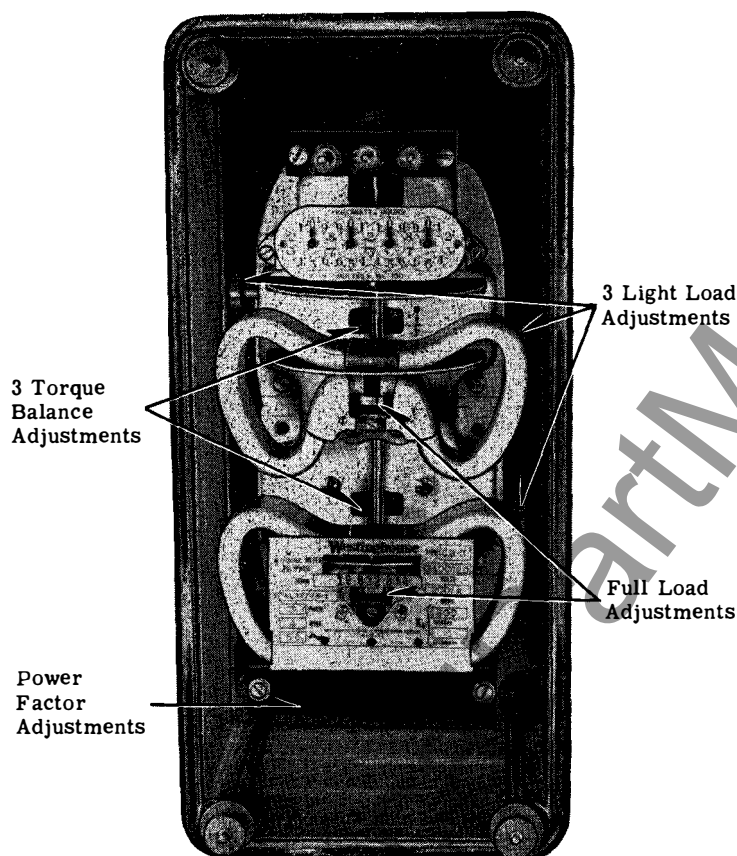

Fig. 1
**Light Load**—Turn screw at sides of electromagnets as shown by arrow in Fig. 1 "F" indicates "faster."
**Power Factor**—Adjustment is obtained by changing the resistance of the power factor adjusting loops located under micarta cover which is located below the nameplate, as shown in Fig. 1. The adjusting loops are identified as to electromagnets by notations U (upper), L (lower), and M (middle, for 3-element meters) as are also the indicator lamps. Increasing the loop resistance increases the speed on lagging power factor single phase test circuit and vice versa.